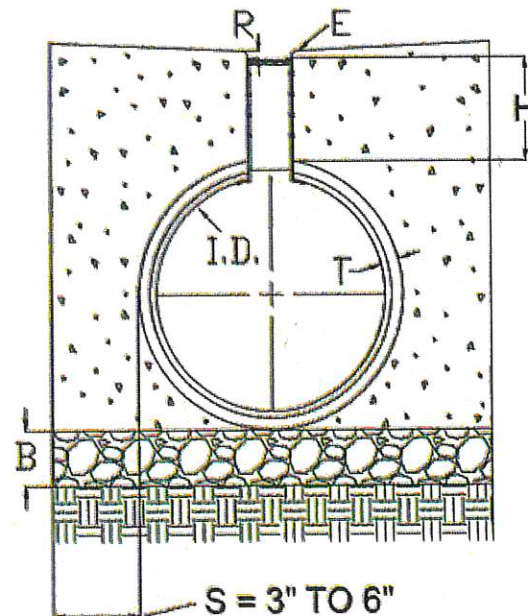

Figure 1
- Excavate the pipe trench corresponding to the site plans (Figure 1).
- Slot riser recess (R) below the finished pavement grade (E).
- Pipe corrugation height or pipe wall thickness (T). Invert elevations are from the inside diameter (ID) and do not account for wall thickness below the flowline.
- Additional depth of any base material (B) required.